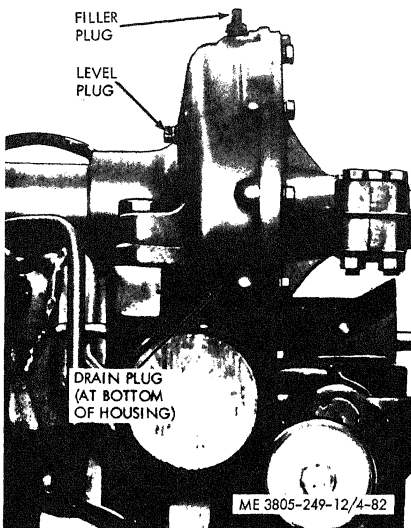

Figure 4-82. Scarifier control upper housing.
(1) Upper housing. Refer to figure 4-82.